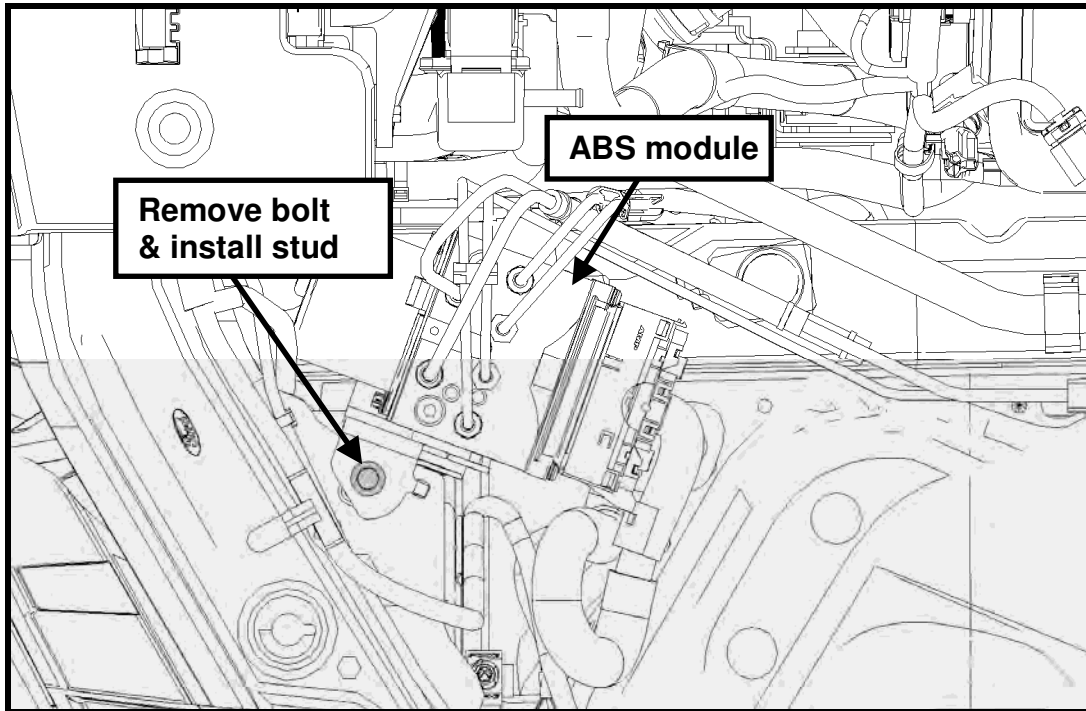

Fig. 5
STEP 2: Locate the ABS module bracket and remove the bolt shown below (Fig. 5). If vehicle is non-ABS, install U-nut in this location.
STEP 3: Install stud in this location and torque to 25 Nm (221 lb-in) (See Fig. 5).